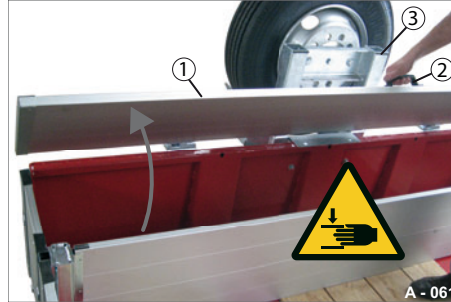
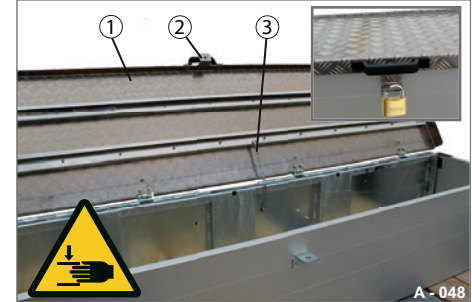

Fig. 56 Opening storage compartment lid
Fig. 57 Closing storage compartment lid
- Grab the handle (Fig. 56/2) and open the lid (Fig. 56/1) completely up to the limit stop (Fig. 56/3), or until the safety chain (Fig. 57/3) limits the opening of the lid.
- Grab the handle (Fig. 56/2) and close the lid in a controlled manner - do not let it fall.
- Lock the lid with a U-lock on the locking bracket (Fig. 57/2) if necessary.